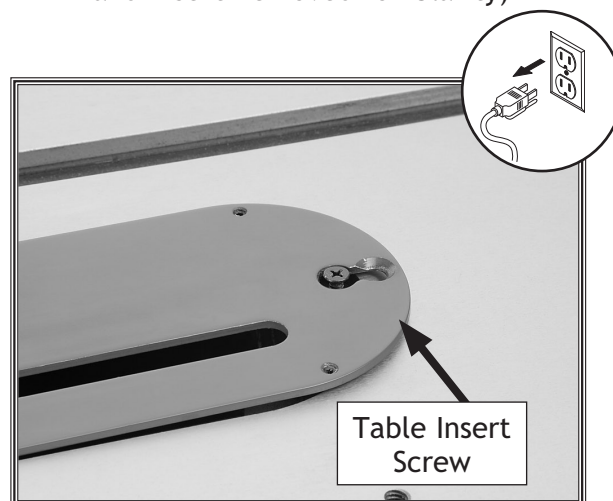

Figure 10. Table insert screw.
1. Place the table insert into the table and tighten the screw shown in **Figure 10**.